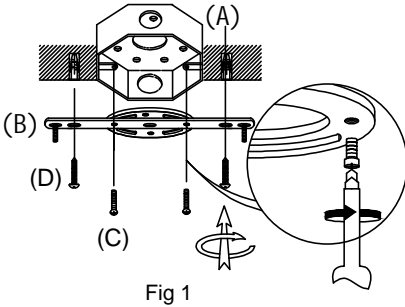
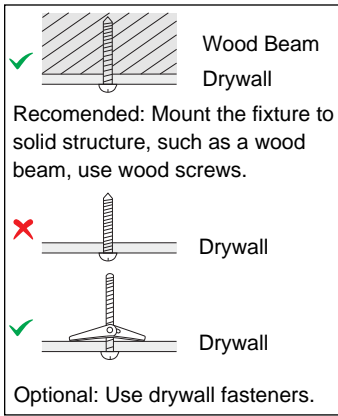

Fig 1
Fig 2
Take off screws from outlet box (A). Secure the mounting plate (B) onto the box with screws (C) taken off (Fig 1). Fix two additional screws as fig. 2.